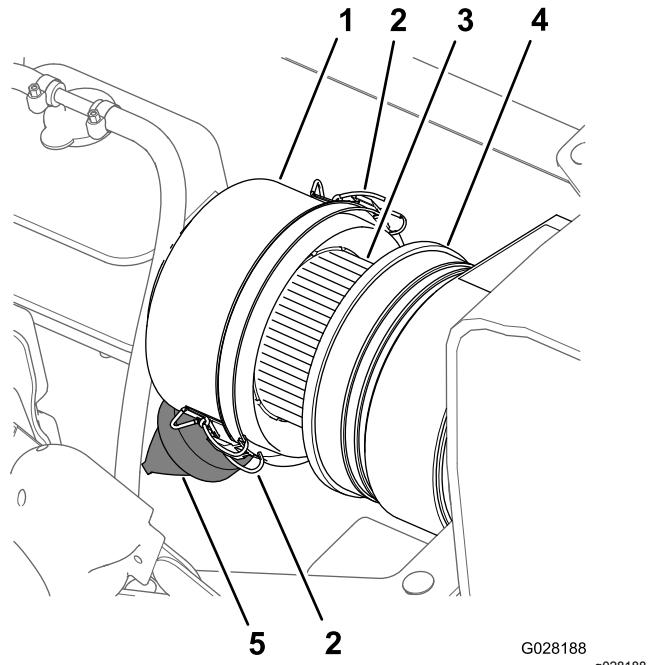
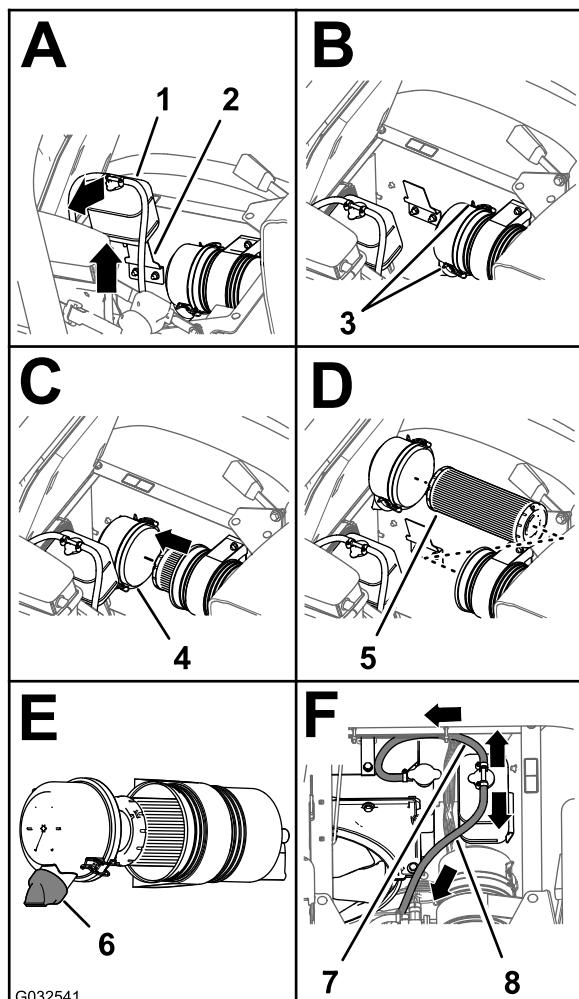

Figure 66
Figure 67
3. Clean the dust cap and air-cleaner body (Figure 66).
4. Check the air-cleaner body for damage that could cause an air leak (Figure 66).
5. Squeeze the dust valve to clear it of dirt, dust, and debris (Figure 66).
7. Check the air-filter element for excessive accumulation of dust, dirt, and debris (Figure 66).
- Install the dust cap onto the air-cleaner body and secure the cap with the 2 latches (Figure 66).
- Clean the dust cap and air-cleaner body (Figure 66).
- Lift the coolant-overflow tank up and off the tank-support bracket (Figure 67).
- Loosen the 2 latches that secure the dust cap to the air-cleaner body (Figure 67).
- Clean the inside of the dust cap, air-cleaner body, and dust valve with a damp rag (Figure 66 and Figure 67).
- Insert the air-filter element into the air-cleaner body (Figure 67).
8. Install the cover onto the air-cleaner body and secure the cover with the 2 latches (Figure 67).
Note: Ensure that the dust valve is aligned between the 5 to 7 o'clock position when viewed from the end (Figure 67).
9. Align the coolant-overflow tank to the tank-support bracket and seat the tank firmly (Figure 67).
Important: Ensure that the pressure-relief hose is routed forward and down, and the tank-vent hose is routed rearward as shown in Figure 67.